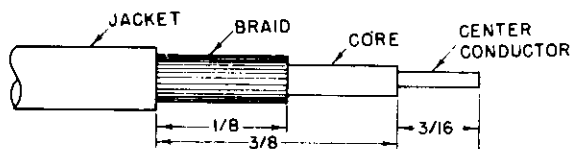

Figure 1
- a. Cut back jacket and core in accordance with figure 1.